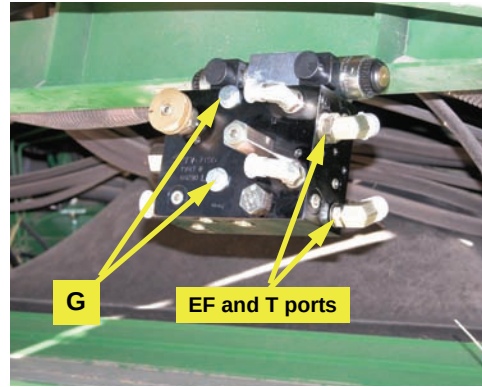

Figure 2b: Steering block - mounted
- b. Using provided hardware **G**, mount the prepared hydraulic steering block—with its **EF** and **T** ports to the left—to its mounting bracket **F** (Figure 2b).